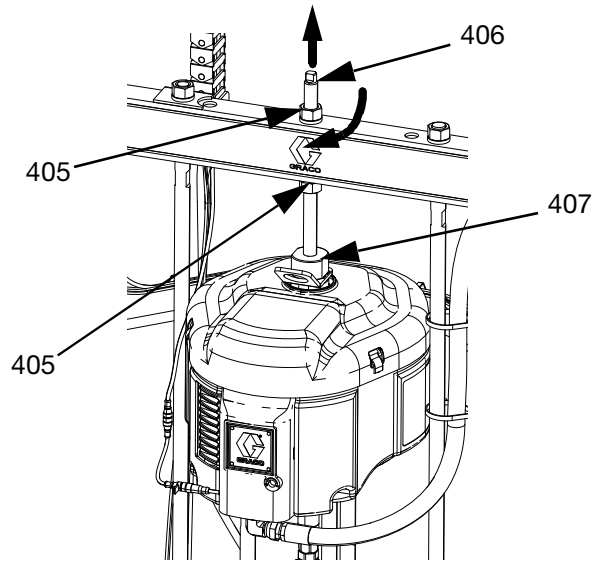

FIG. 43
1. Insert Displacement Pump (C) on Platen (D). Follow **Connect Platen** steps on page 107.
3. Connect Air Motor (B):
- a. Use wrench on nut (405) on top of tie bar to lower Air Motor (B) onto Displacement Pump (C). See FIG. 43 on page 108. Thread nut (405) up and tighten it under tie bar. Tighten nut (405) below the tie bar to 25 ft-lb (34 N•m) maximum.